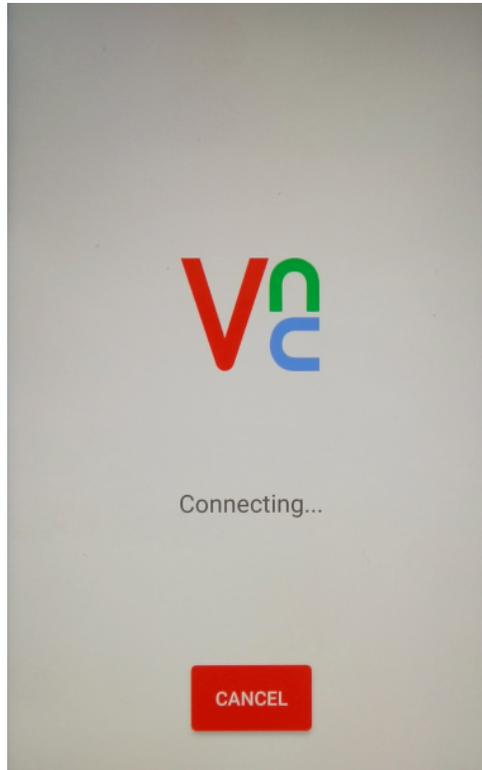

Figure 18: VNC Attempting Connection Screen
8. Select **CONNECT**: The VNC application displays an informational message indicating the VNC attempt at connection (see Figure 18).